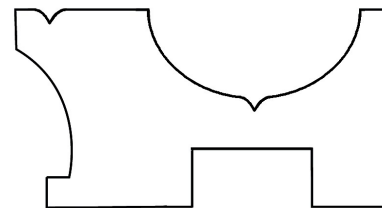

Figure A-5
**STEP FIVE:** Switch to the 3/8" point-cutting roundover bit and mill a bead 1/4" from the outside edge and again in the bottom of the semi-circle that was milled in step four (Fig A-5).